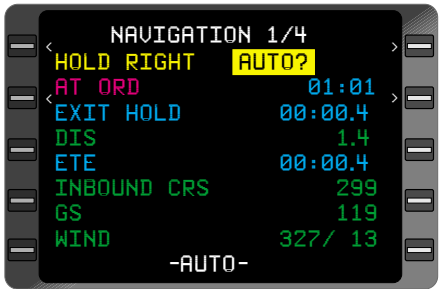

Figure 3-113
3. **BACK** Key - DEPRESS to display **AUTO?**. (Figure 3-113)